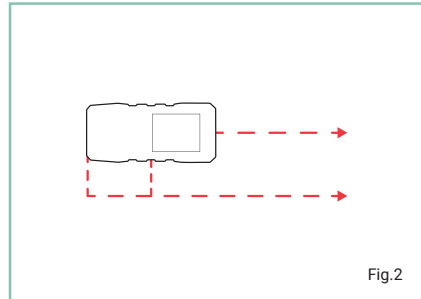

Fig.2
- The default reference point is bottom. There are 3 reference points: top, middle and bottom (Fig.2).